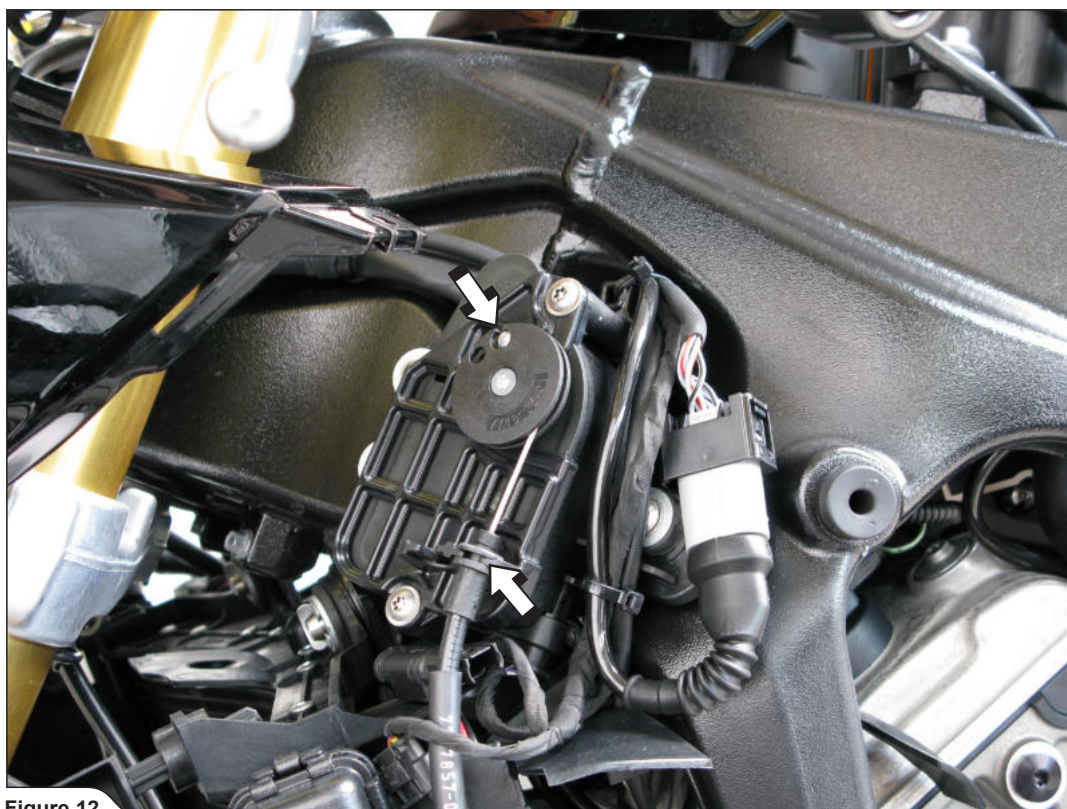

Figure 12
11. Remove the header tubes valve cable from servo motor (Figure 12).